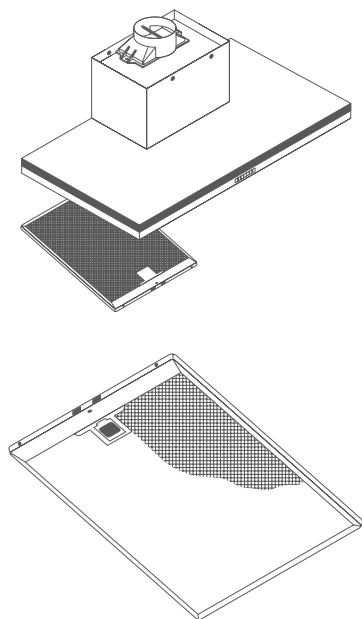

Fig.6 Grease filters
- Depending on use, and at least once a month, the grease filters should be disassembled (Fig.6) and cleaned in a dishwasher or with hot soapy water. If washed in a dishwasher they should be placed in an upright position to prevent food remains from falling on them.